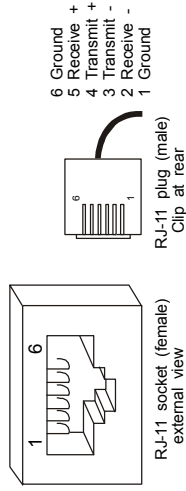
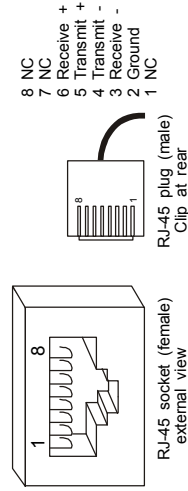

Figure 2. RJ-11 Pin Assignment
Figure 3. RJ-45 Pin Assignment
- b. Plug the cable into the RJ socket (see *Figure 2* and *Figure 3*).